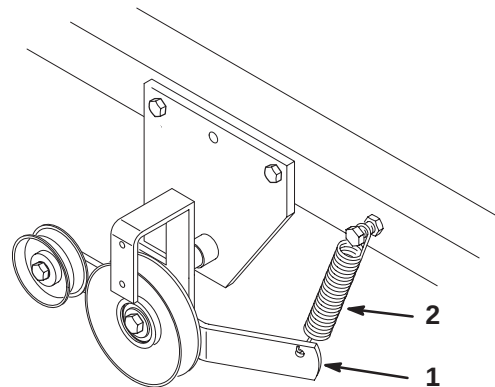

Figure 27
2. As the drive belt wears, and the tiller is raised and lowered, the spring loaded idler arm moves (Fig. 27).